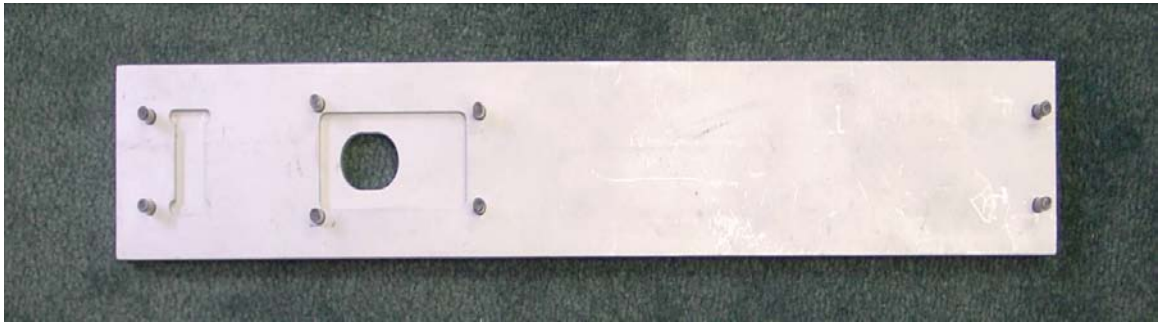

FIGURE A-1. Extension Jig
- Using an extension jig as seen in FIGURE A-1, insert a tab into slot. Set the transducer over the tab into the transducer hole closest to the cable exit and *loosely* thread on a nut.